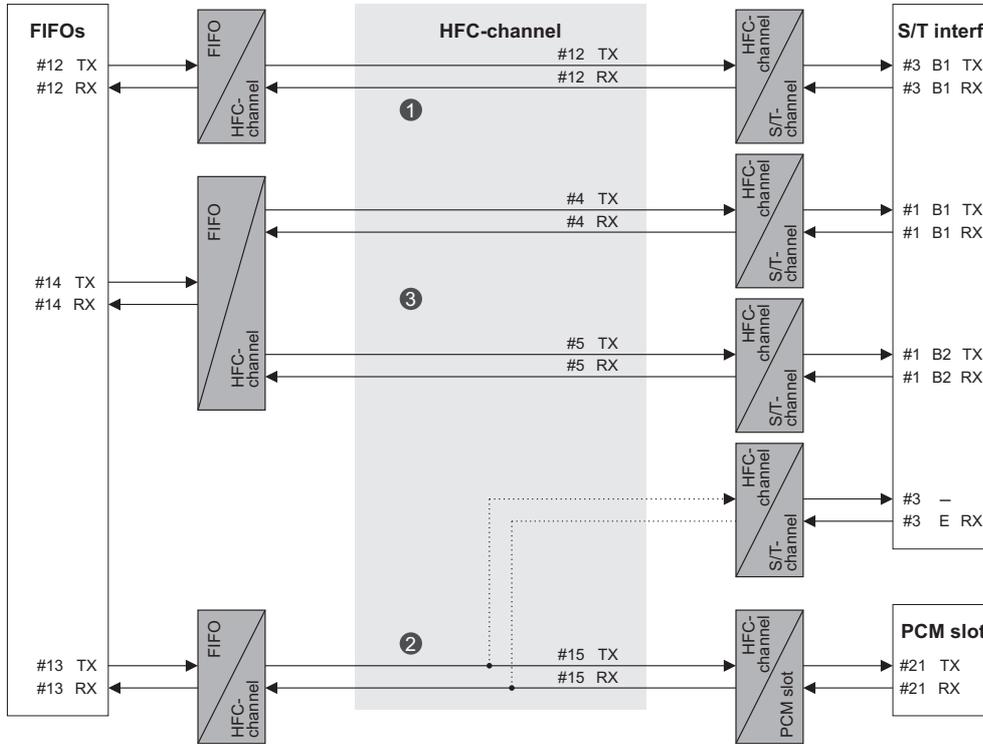

Figure 3.12: FSM example
Figure 3.12 shows an example with three bidirectional connections (❶ 8 kByte/s-FIFO-to-S/T, ❷ 8 kByte/s-FIFO-to-PCM and ❸ 16 kByte/s-FIFO-to-S/T). The black lines illustrate data paths, whereas the dotted lines symbolize blocked HFC-channels. These are not used for data transmission, but they are necessary to enable the settings.
Table 3.5: List specification of the example in Figure 3.12